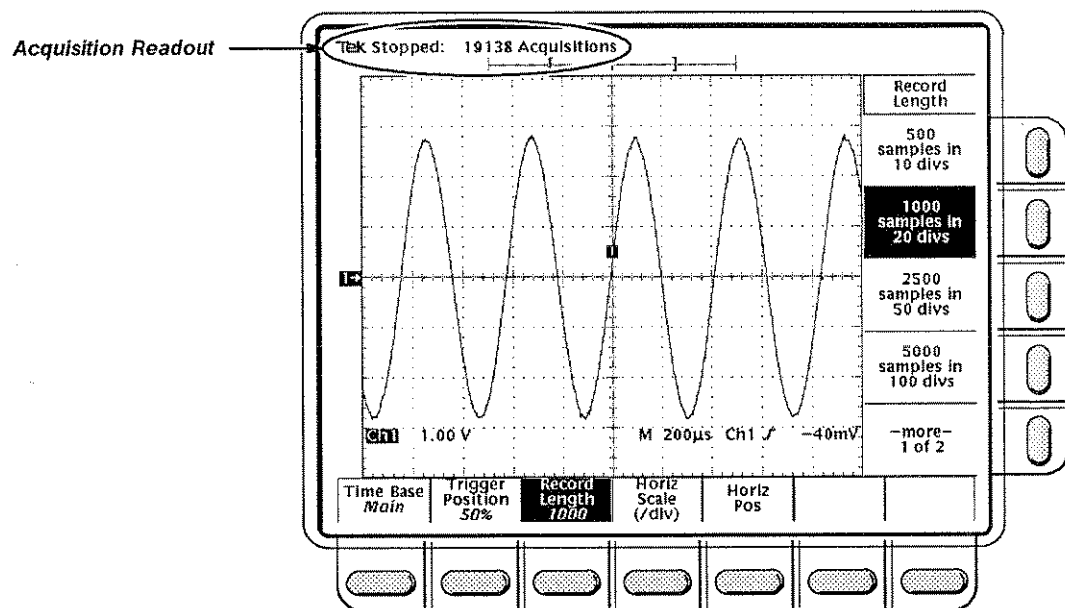

Figure 3-2: Acquisition Readout Shows Acquisition Status
- Step 2:** If desired, press **RUN/STOP** from the side menu. This will let you stop and start acquisitions using the from panel **RUN/STOP** button. Pressing it once will stop the acquisitions and the Acquisition readout will resemble the one shown in Figure 3-2. Pressing it again will restart taking acquisitions.